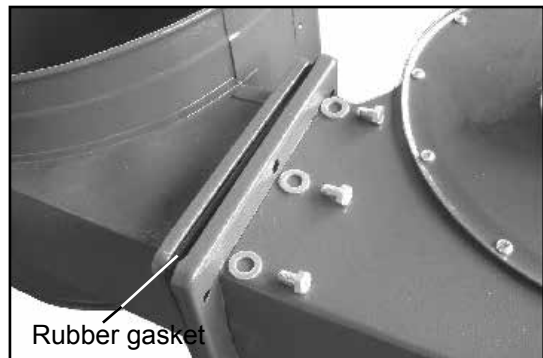

Fig. 05
2. Place the rubber gasket between both mounting flanges (Fig. 05).